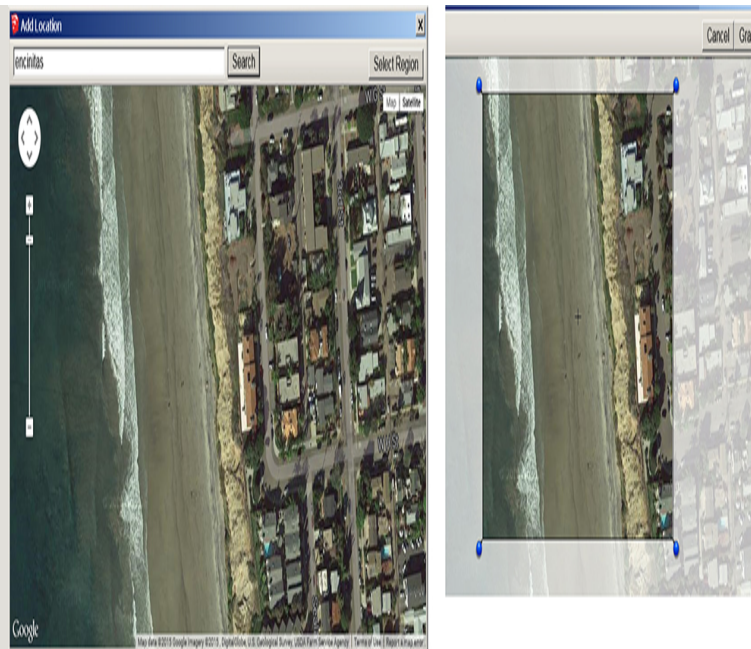

Figure 4-50 Select the exact area for the model by adjusting the pins.
2. Find the exact area (Figure 4-50). Once you've zoomed in to the general area, click on Select Region. Four pins will appear. Move them to select the exact patch wanted for the model. Include a feature whose size you know or can reasonably guess. Then click Grab.